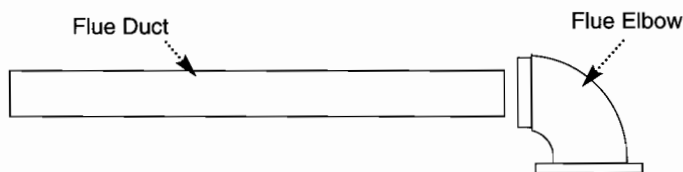

Fig. 26
11. Engage uncut end of the flue duct in the flue elbow using soap solution to ease the engagement (Fig. 26).